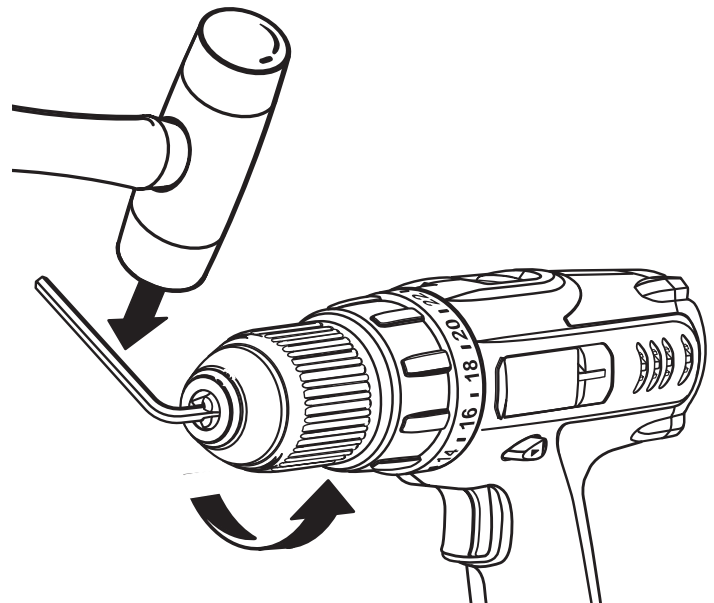

Fig. 15
- Insert the hex key in the chuck and tighten chuck jaws securely. Tap sharply with a mallet in a counterclockwise direction. This will loosen the chuck on the spindle. It can now be unscrewed by hand. See Figure 15.